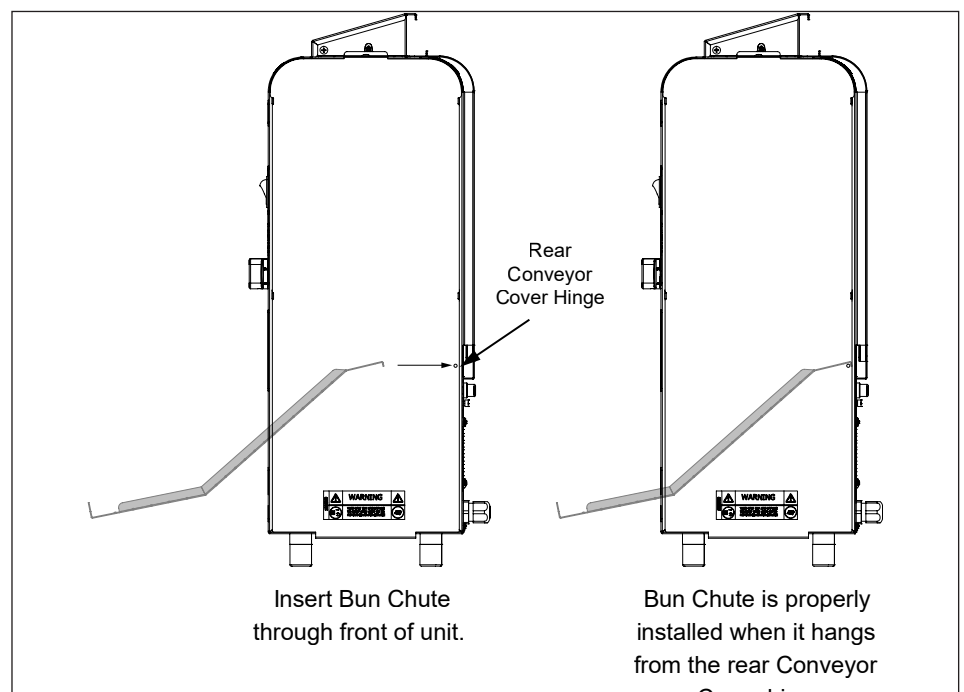

Figure 2. Installing Bun Chute
**NOTE:** The factory has pre-installed a Release Sheet over the Platen (Figure 2). Verify that it is properly in place before proceeding.
3. Hang the back of the Bun Chute on the rear Conveyor Cover hinge. When properly installed, the Bun Chute supports will be flush against the front of the unit (Figure 2).
15. Reinstall the Bun Chute through the front of the toaster. Hang the back of the Bun Chute on the rear Conveyor Cover hinge. See Figure 2 on page 5. Reinstall the Bun Feeder.